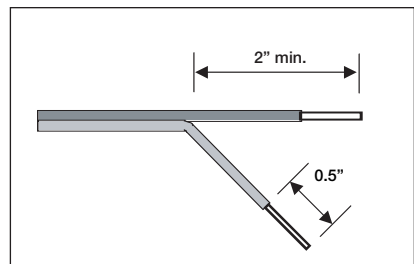

Figure 17 Wire Stripping Details.
5. Strip 1/2" of insulation from the end of each conductor. **(See Figure 17.)**